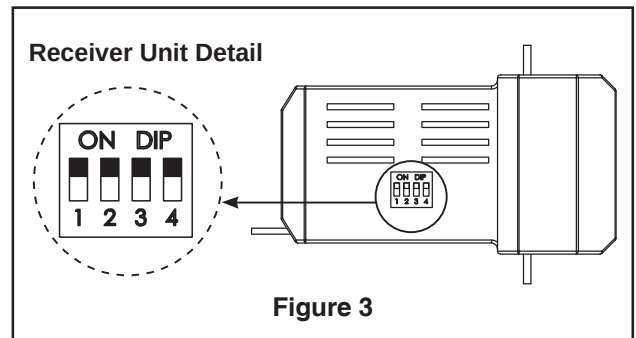

Figure 3
- ☐ 1. Securely attach the hanger bracket to the outlet box using the outlet box screws and washers supplied with the outlet box (Figure 3).
- ☐ 2. To set the receiver unit code, slide code switches to the same positions as set on your transmitter (Figure 3).